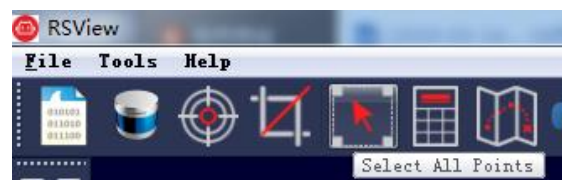

Figure C-12 RSVIEW Select All Points Tool
8. Click the **Select All Points** tool, which turns your mouse into a data point selection tool (Figure C-12).